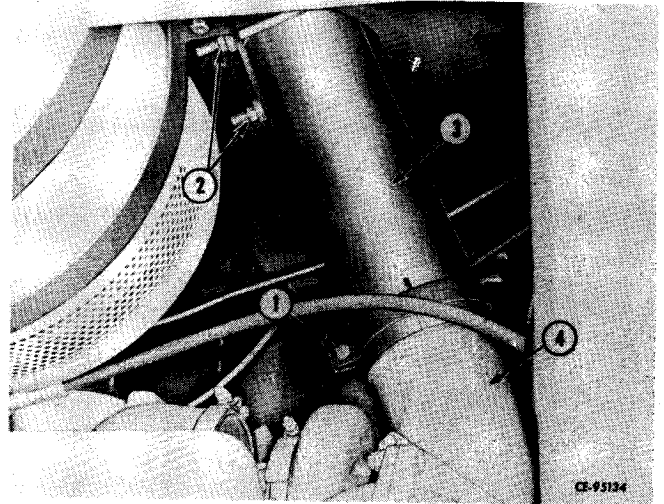

Figure 2-3
From inside the engine compartment, loosen bolt and nut (1, Fig. 2-3) from muffler clamp and nuts (2) from "U" clamp. Remove exhaust stack (3) from exhaust manifold (4) and up through "U" clamp.